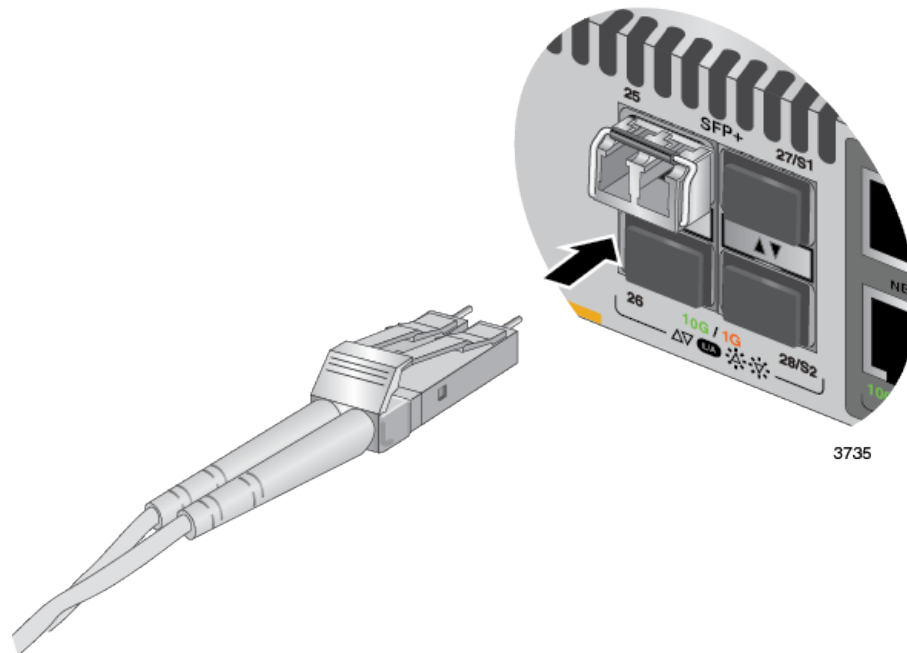

Figure 69. Connecting a Fiber Optic Cable to an SFP or SFP+ Transceiver
- Connect the fiber optic cable to the transceiver, as shown in Figure 69 on page 179. The connector on the cable should fit snugly into the port, and the tab should lock the connector into place.